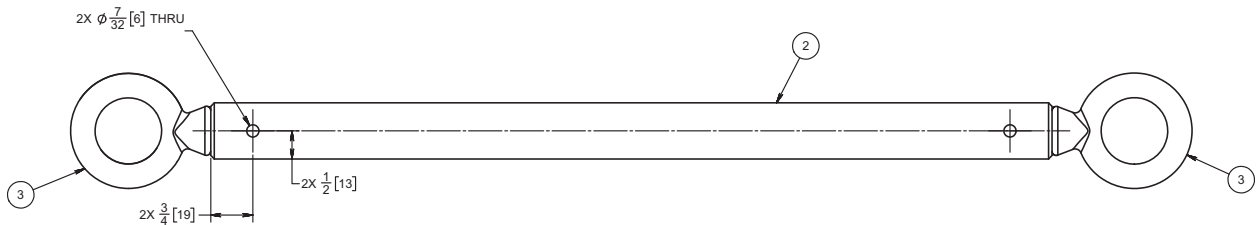

Figure 5: Item 2 (pin) drilled hole detail for installation of item 4 (cotter pin)
7. On a workstation, hand tighten the eye bolts (item 3) on the pin (item 2) and drill two 7/32" diameter holes for the cotter pins (item 4) as shown in Figure 5.